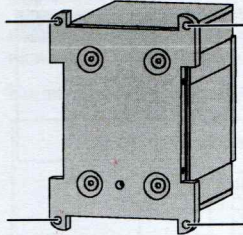

Fig. 10: C9900-U332_mounting plate
1. Place the battery pack with the marked locations of the mounting plate (see Fig. 10) in front of the prepared drill holes.